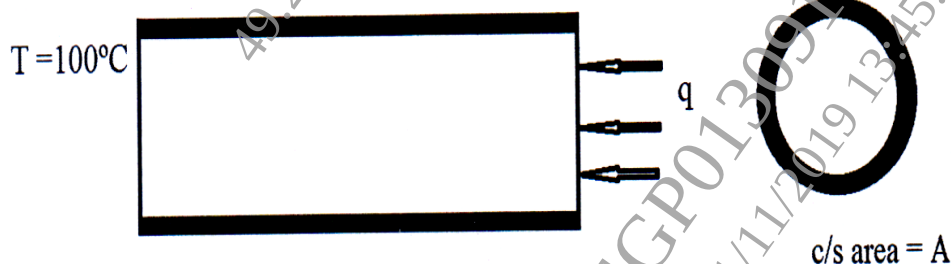

Figure 4
- b)** The fin shown in figure 4, is insulated on the perimeter. The left end has a constant temperature of 100°C. A positive heat flux of $q = 5000 \text{ W/m}^2$ acts on the right end. Let $k = 6 \text{ W/m}^\circ\text{C}$ and cross sectional area $A = 0.1 \text{ m}^2$. Determine the temperature at 0.25 L, 0.5L, 0.75L and L, where $L = 0.4 \text{ m}$. [12]